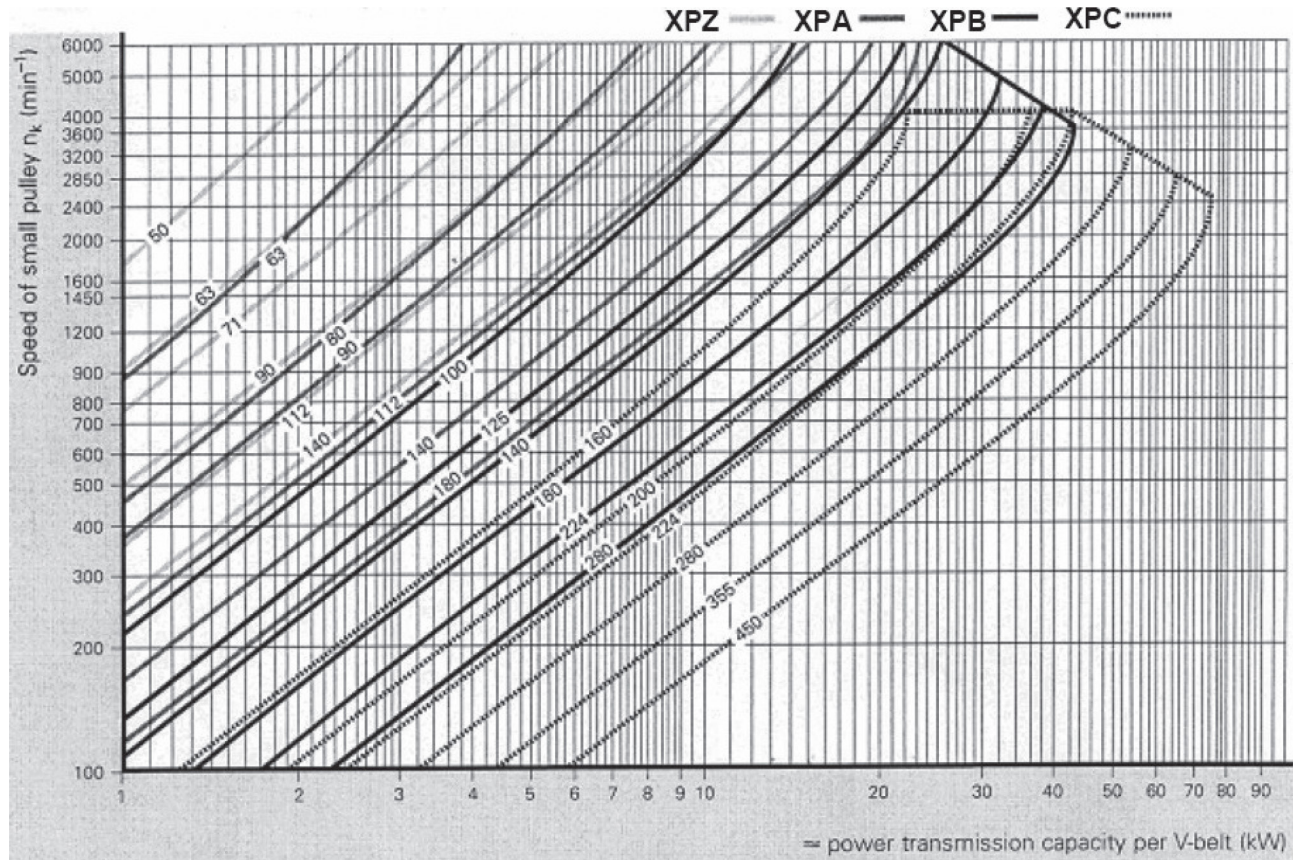
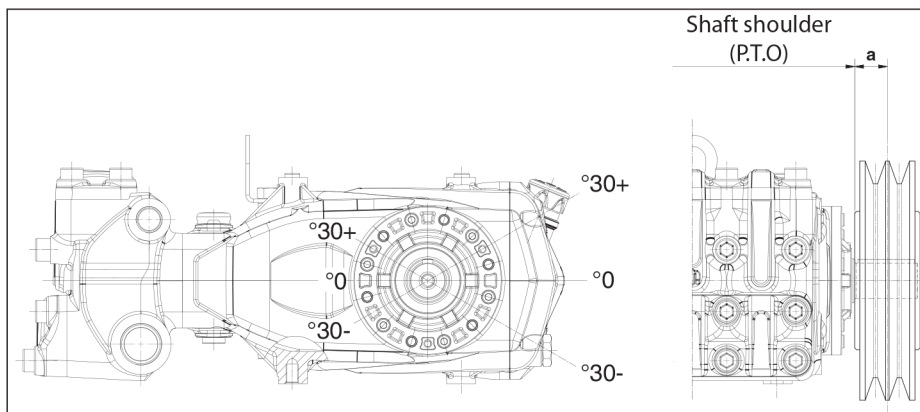

Fig. 7
Fig. 10
The pump can be controlled by a V-belt system. For these pump models, we recommend use of 3 XPB belts (16.5x13 serrated). Use an XPC profile only for long durations. Both the characteristics and transmissible power of each belt can be verified in the diagram in Fig. 7, in relation to the number of rpm normally declared by the manufacturer. Minimum duct pulley diameter (on pump shaft): ≥ 6.3 in (160 mm). The radial load on the shaft must not exceed 3319 ft. lbs. 4500 N (value necessary for Layout definition). The transmission is considered adequate if the load is applied to a maximum distance $a = 1.97$ in. (50 mm) from the shaft shoulder (P.T.O) as shown in Fig. 10.
B) Use high performance belts – for example XPB instead of SPB – as a lower quantity of belts for the same transmitted power may be necessary and a consequent shorter resulting distance compared to the shaft shoulder (P.T.O) “a” of Fig. 10.
- E) Follow the direction of the belt pull as shown in Fig. 10 for other needs, contact our Customer Service Department.